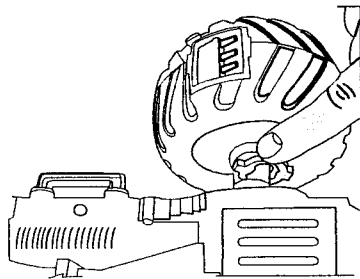

Fig 20
- 2) Using your fingers, place the clip in the correct position on the axle and snap it into place (**Fig 20**).